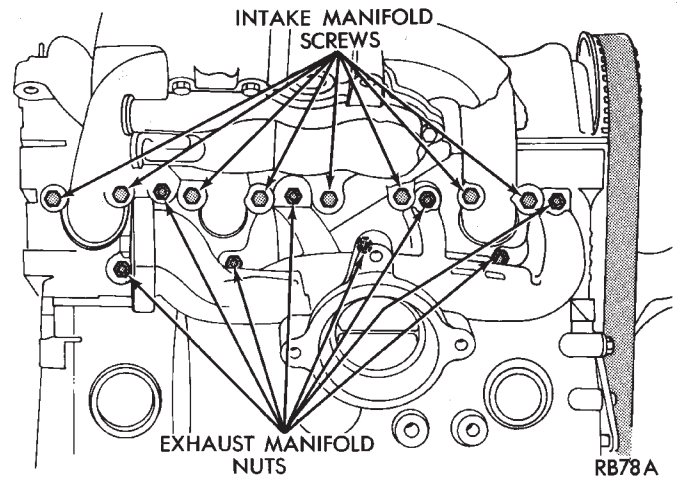

Fig. 9 Intake and Exhaust Manifold Attaching Points—2.5L Engines
- (7) Disconnect EGR tube from intake manifold and remove water hoses from water crossover.
- (8) Raise vehicle and remove exhaust pipe from manifold.
- (9) Remove power steering pump assembly and set aside.
- (10) Remove intake manifold retaining screws. (Fig. 9)
- (11) Lower vehicle and remove intake manifold.
- (12) Remove exhaust manifold retaining nuts (Fig. 9).
- (13) Remove exhaust manifold.
(1) Install a new intake and exhaust manifold gasket. Coat steel gasket lightly with Gasket Sealer on manifold side. **Do not** coat composition gasket with (any) sealer.
(2) Set exhaust manifold in place. Tighten retaining nuts starting at center and progressing outward in both directions to 23 N•m (200 in. lbs.) (Fig. 9). Repeat this procedure until all nuts are at specified torque.
(3) Set intake manifold in place.
(4) Raise vehicle and tighten retaining screws starting at center and progressing outward in both directions to 23 N•m (200 in. lbs.) (Fig. 9). Repeat this procedure until all screws are at specified torque.
(5) Reverse removal procedures 1-9 for installation.
(6) With the DRB II use ASD Fuel System Test to pressurize system to check for leaks.